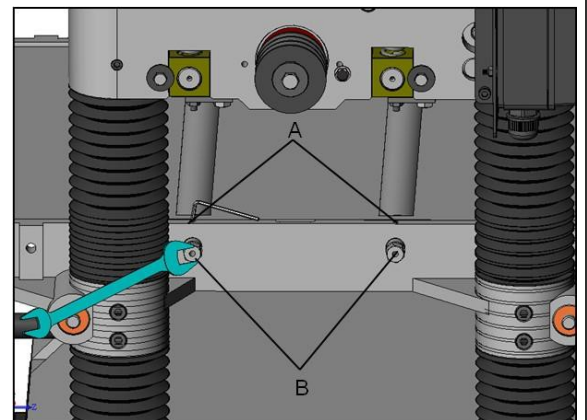

Fig. 15
- Place a straight level on table roll, loosen screw (A) adjust your shaft (B) to the proper height and tighten back the screw to hold in position. (Fig. 15)